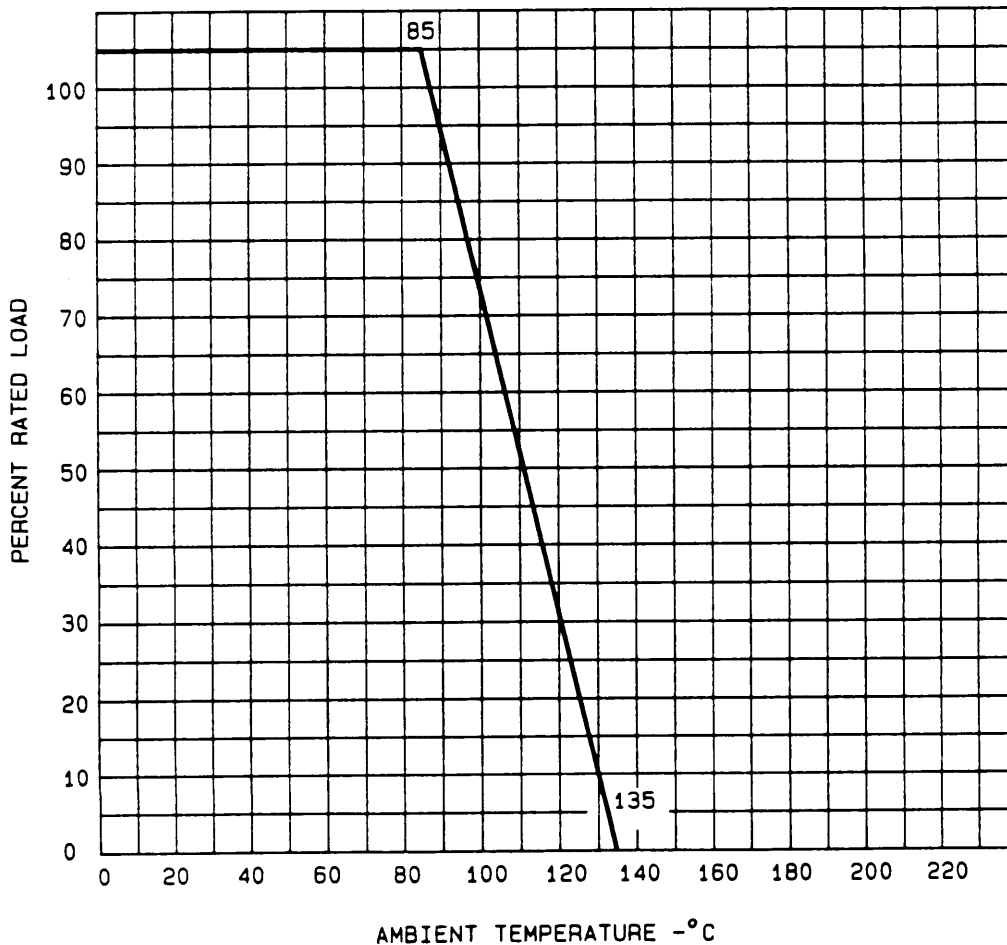

FIGURE 207-1. Derating curves for high ambient temperatures.
2.1.3 Derating at high temperatures. These resistors may be used at full wattage at the applicable operating temperature. When a resistor is to be used where the surrounding temperature is higher than the applicable operating temperature, a correction factor must be applied to the wattage rating so as not to overload the resistor. This correction factor may be taken from the derating curve shown on figure 207-1.